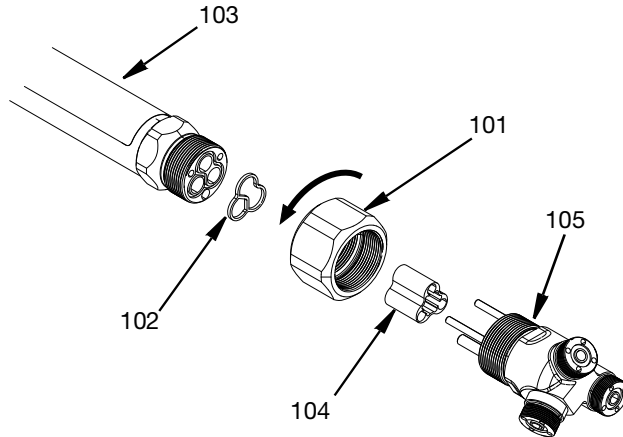

FIG. 18
1. Loosen the turnbuckle locking nut (101) by turning it counter clockwise as seen facing the main body of the SST Switch 3D Gun. The nut rotation will separate the 3 head adapter assembly (105) away from the long tube assembly (103).
2. Discard adapter gasket (102) and valve shut off bearing (104). See FIG. 18.